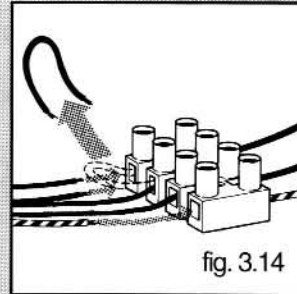

fig. 3.14
- 3- Remove the brown U-link (see fig. 3.14).